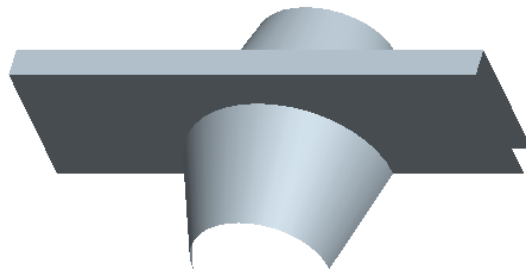

Figure 13-91 Model after creating the mirror copy of the blend surface
- d. The third feature is a mirror copy of the second feature, refer to Figure 13-91.
2. Select the **FRONT** datum plane and exit the dashboard. The blend surface is mirrored about the selected datum plane as shown in Figure 13-91.